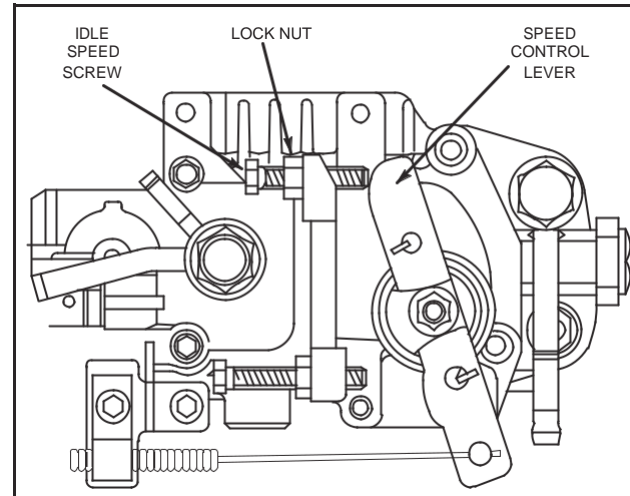

Fig. 23 – Adjusting Idle Speed
1. Loosen idle speed screw lock nut and adjust idle speed screw to obtain RPM specified by model and type number shown in chart, Fig. 23.